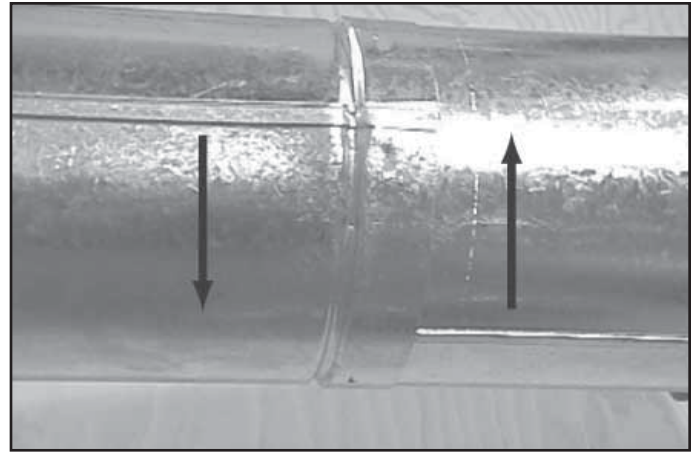

Figure 10.9 Rotate Seams for Disassembly
- Vent support or plumber's strap (spaced 120° apart) may be used for support. See Figures 10.9 and 10.10.
- Rotate either section (see Figure 10.9) so the seams on both pipe sections are aligned as shown in Figure 10.10.